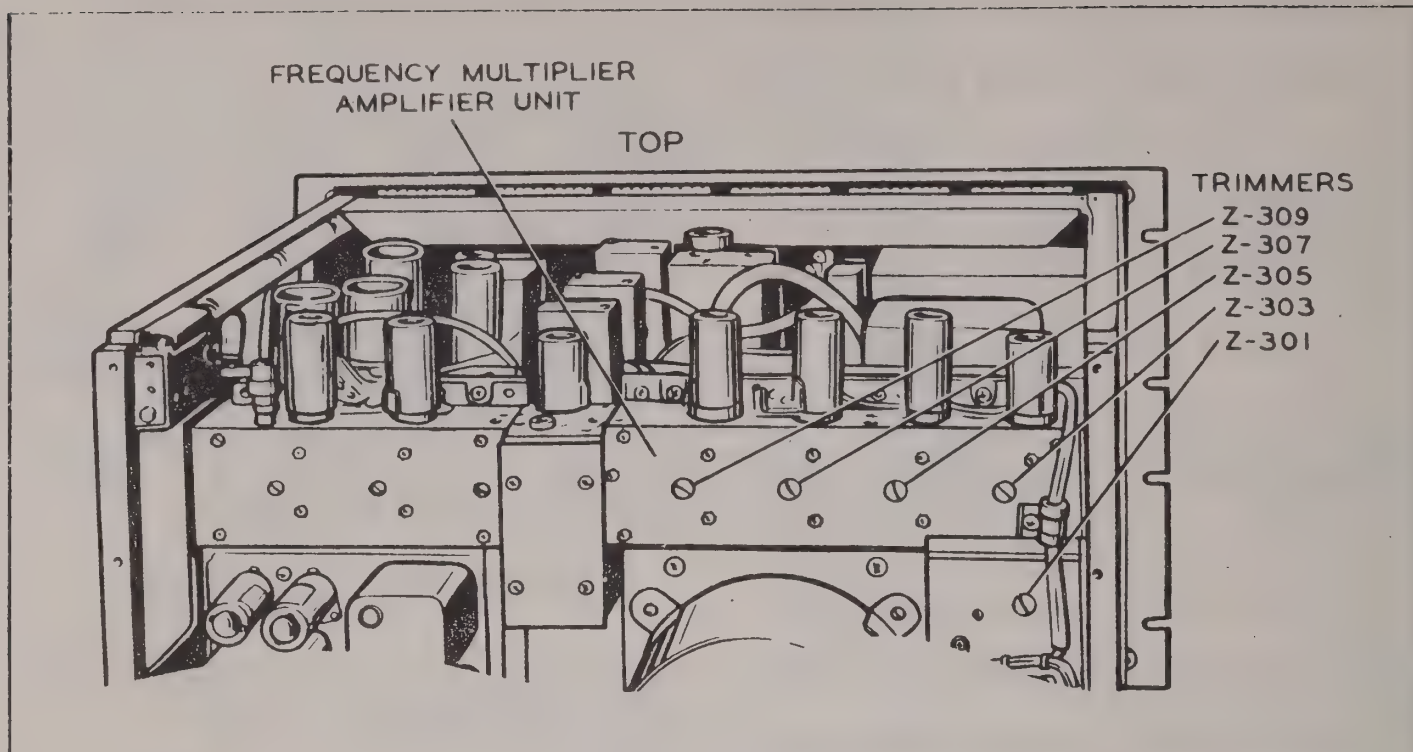

Figure 2-7 Radio Receiver R-278 ( )/GR, Partial Rear View,
- (1) Remove the receiver from the mounting rack, remove the dust cover, and place the unit on a test bench.
- (2) Remove the rear frame plate from the end of the chassis so that trimmers Z-301, Z-303, Z-305, Z-307, and Z-309 are accessible. See Figure 2-7.
- (3) Connect an a-c power cable from the receiver to an a-c outlet.